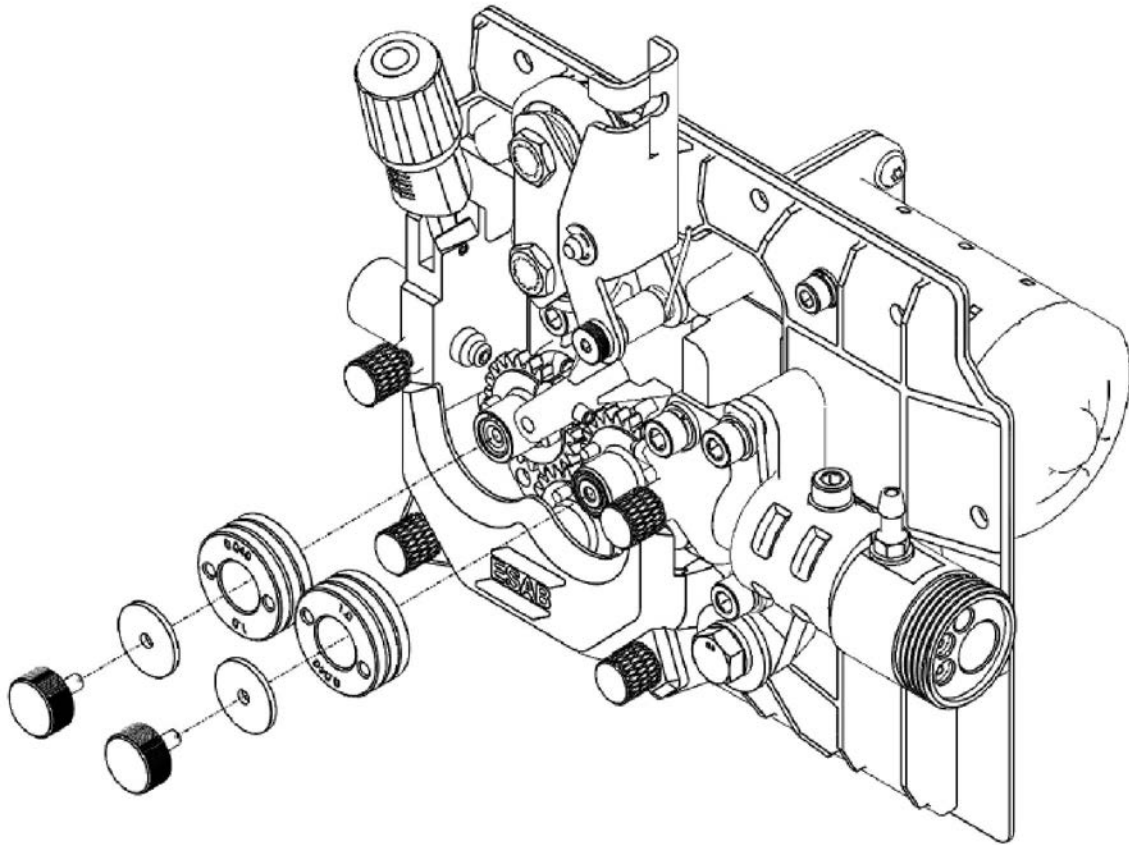

Figure 6. Feed roller removal and installation
Avoid removing drive gear (see (1) in Figure 6). (Risk losing drive-shaft woodruff key.)